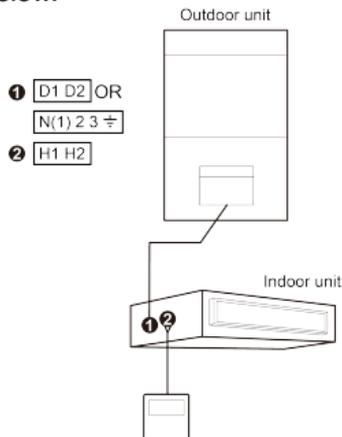
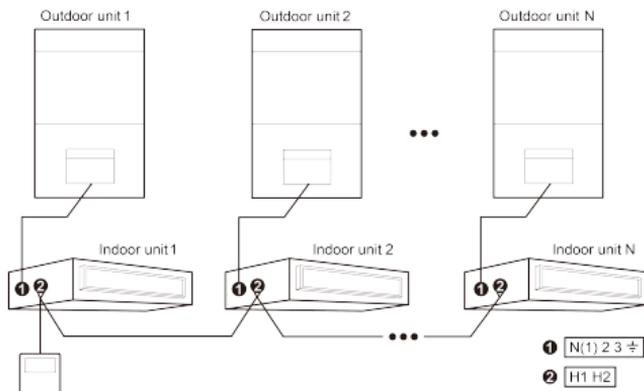

Fig. 5.4 One wired controller controls one indoor unit
Fig. 5.5 One wired controller controls multiple UNI split 2 units simultaneously
- (1) The wiring methods in fig. 5.4 and fig. 5.5 can be adopted for the wired controller connecting UNI split 2 unit.
- (2) When one wired controller controls multiple indoor units simultaneously, the wired controller can connect to any one indoor unit, but the connected indoor unit must be the same series indoor unit. The total quantity of indoor unit controlled by wired controller can't exceed 16 sets, and the connected indoor unit must be within the same indoor unit's network. Wire controller must set quantity of group control indoor units. Please refer to 5.2.2 Parameter Setting.
- (3) The terminal of the wire controller is non-polarized and cannot be connected to strong electric.